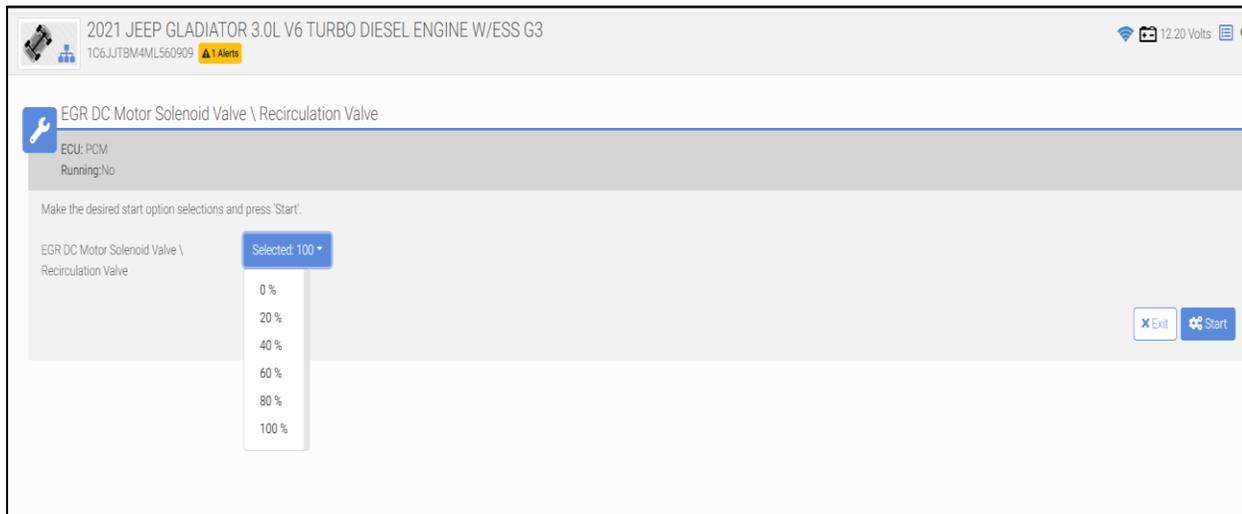

Figure 2.
- From the available drop-down menu, select 100% and click “Start” to command the EGR valve to 100%. Please see (Figure 2).